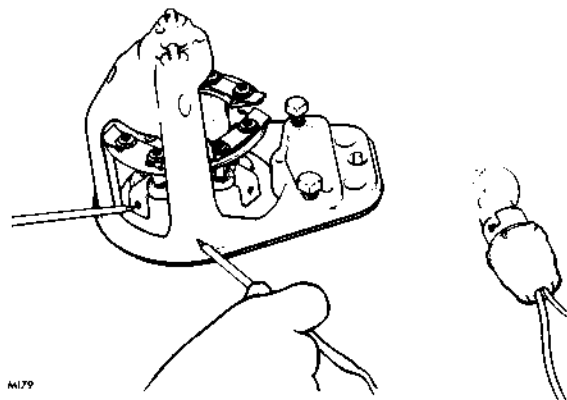

FIG. 6. CHECKING THE BRUSH GEAR (b)
- b. The positive brush holder and the frame (Fig. 6).